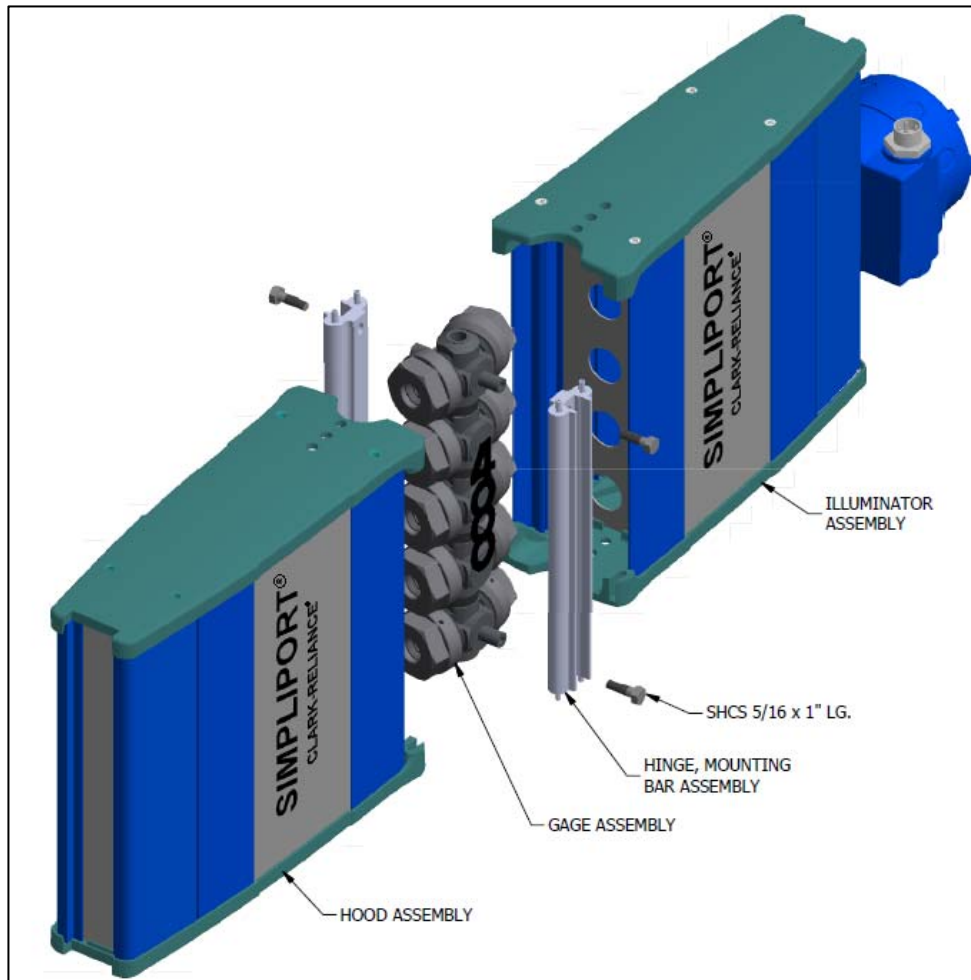

Figure 1
NOTE: See Figure 1 on next page for component locations.
- 6) Re-connect DC power plug and bench test unit by applying AC through the AC Input Connector (ref. Figure 1).